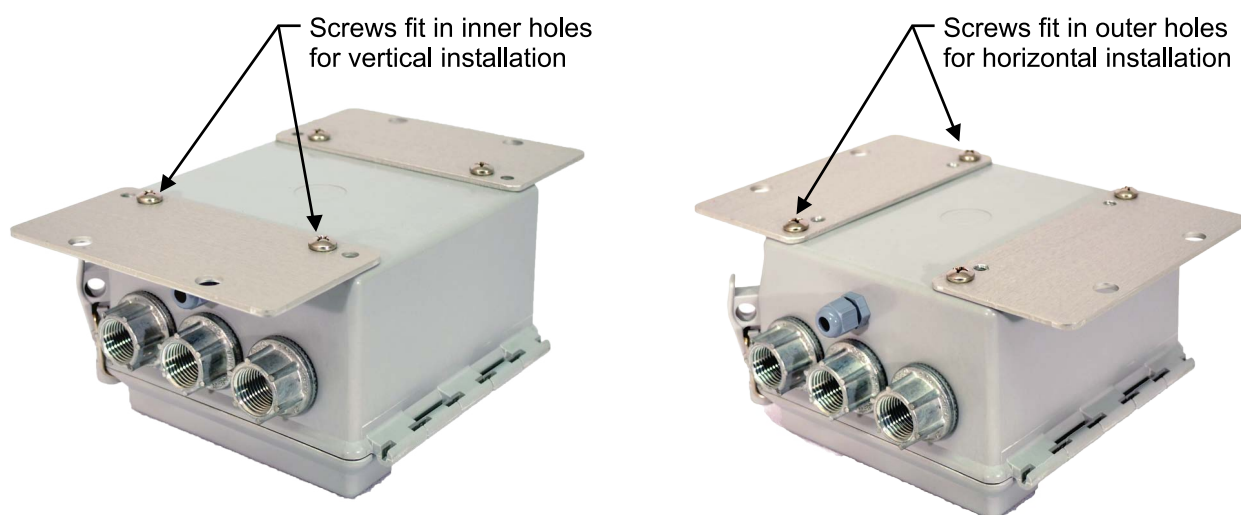

Figure 2.4—Conversion of brackets for mounting instrument to horizontal pipe
1. Place the enclosure on its face and remove the four screws securing the brackets. Remove the brackets and set aside the eight spacer flat washers (two at each screw hole). Retain the screws and washers for use in steps 2 and 3. Note the two sets of mounting holes in the bracket. The screws are positioned in the holes nearest the center of the bracket (as appropriate for vertical mounting) when the instrument leaves the factory (Figure 2.4).
3. Insert the screws that were removed in step 1 in the *outer* holes of the bracket and tighten with a screwdriver (Figure 2.4).